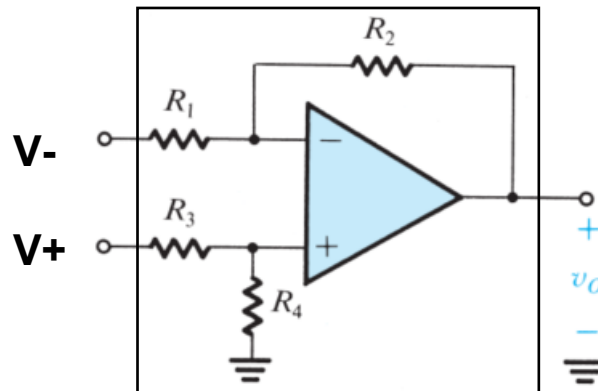
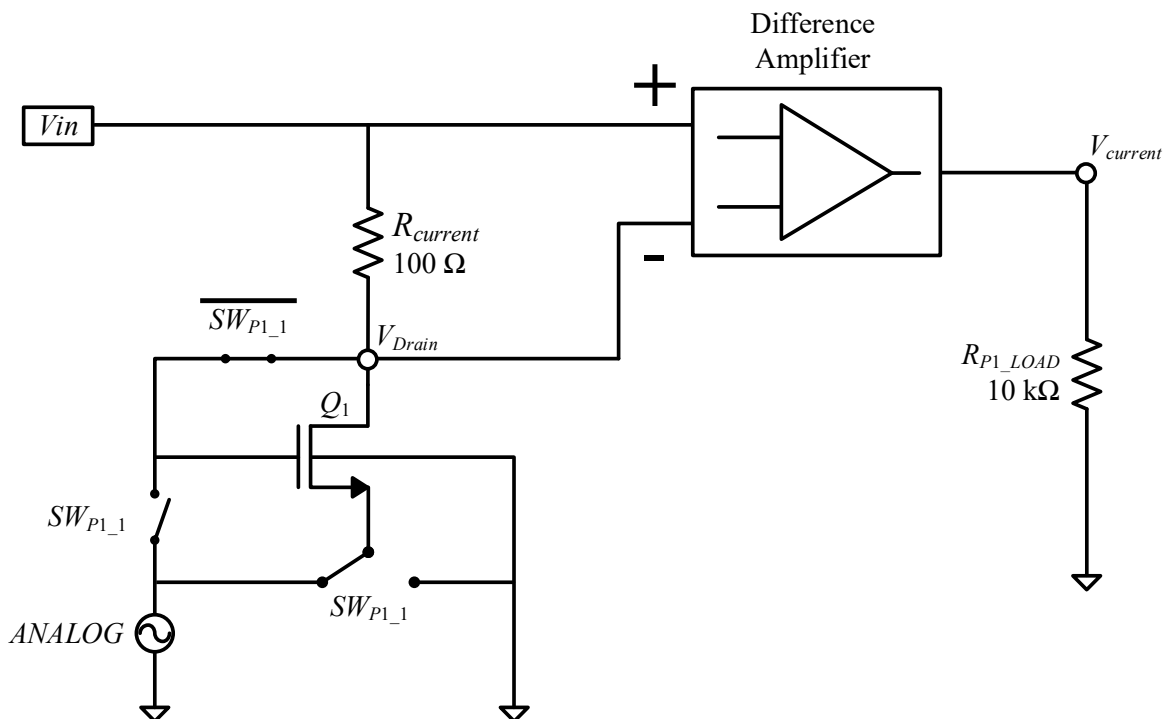

Fig. 4: Differential Amplifier.
Fig. 5: I-V characteristic measurement circuit.
A differential amplifier circuit is shown in Fig. 4. The configurable circuit shown in Fig. 5 is used to measure the I-V characteristics of a single NMOS transistor, Q_1 . A difference amplifier with a gain, A , of 2 V/V is used to measure the current in the MOSFET by measuring the current through a resistor, $R_{current}$. The output of the difference amplifier, $V_{current}$, is proportional to the drain-to-source current, i_{DS} , according to the relationship:
- E1 As shown in Fig. 4, you should set up the Difference Amplifier with a **gain of 5** using MCP6002 op-amp. (Use $V_{DD} = 5\text{ V}$, $V_{SS} = 0\text{ V}$, **1 k Ω and 5.1 k Ω resistors** to build the circuits.)